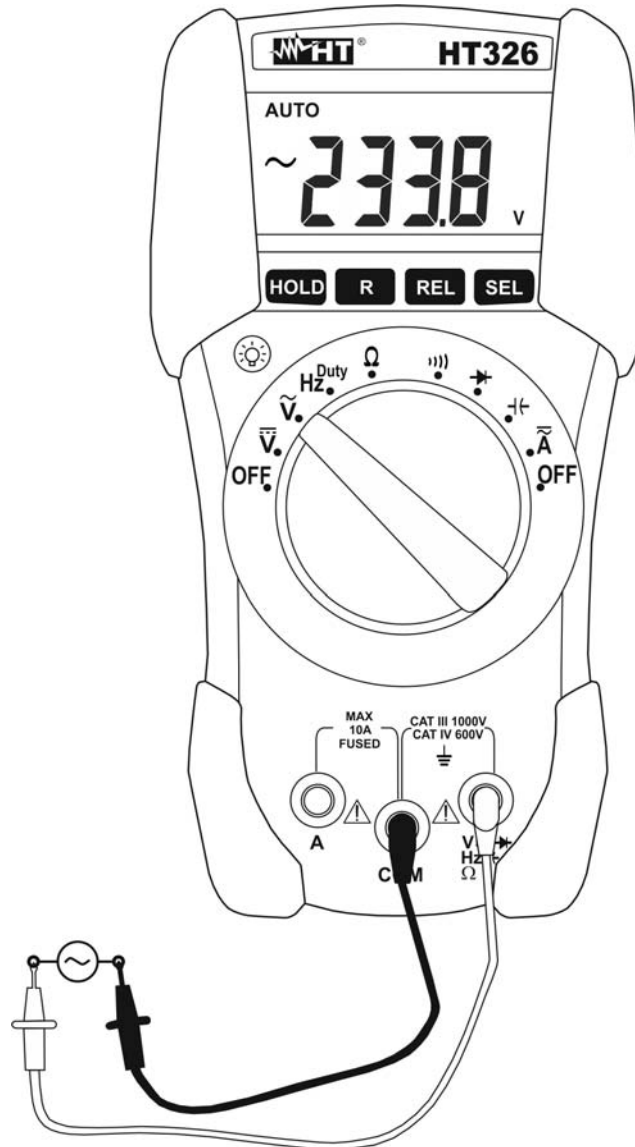

Fig. 3: Using the instrument for AC Voltage measurement
4. Connect the test leads to the circuit under test (see Fig. 3). The voltage value is displayed.